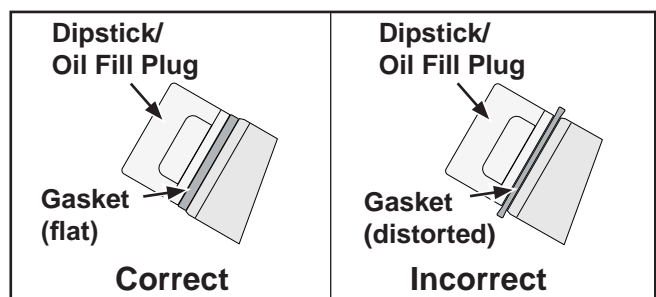

Figure 21. Dipstick Reinstallation.
5. Reinstall the dipstick/oil fill plug and tighten securely. See Figure 21.